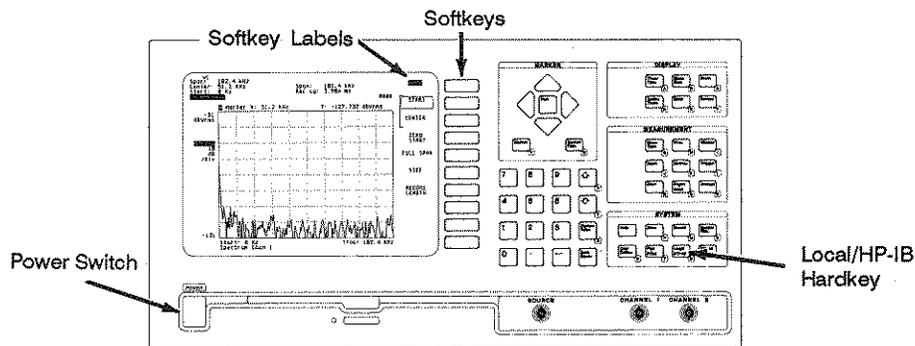

Figure 1-2. HP 35660A Front Panel
3. Turn on the HP 35660A. When the softkey labels appear, press the Local/HP-IB hardkey. (see Figure 1-2)